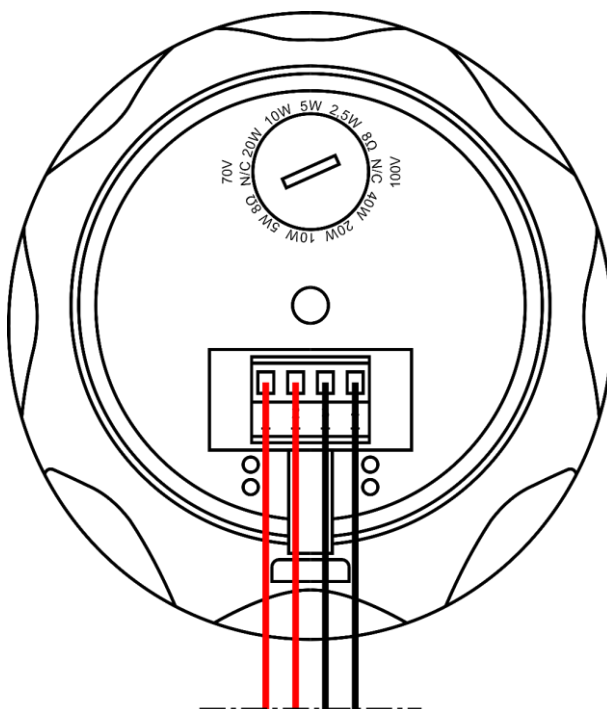

Fig. 07
02) Connect the speaker cables to the device (Fig. 07). See **4.5. Connecting to Amplifier** on pages 12–14 for more information.